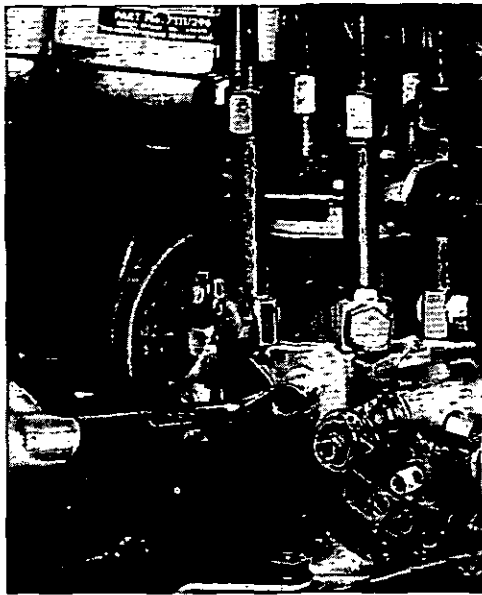

Fig. M.25.
2. Slacken the vent valve fitted on the hydraulic head locking screw Fig. M.25.
- (a) Head locking screw vent valve Fig. M.25.